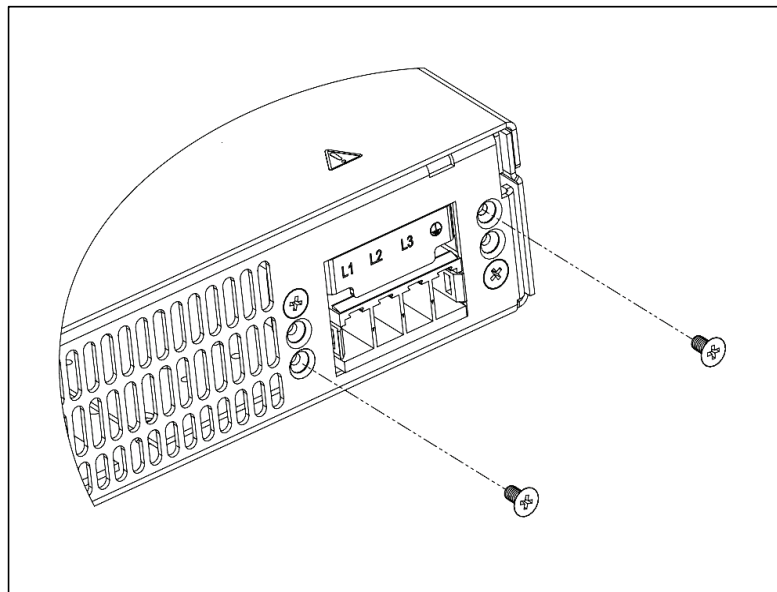

Figure 4-7: Unscrew the Rear Panel Screws
10. To fix the strain relief release assembly, unscrew two of the rear panel screws as shown in Figure 4-7 (3-Phase is shown, it applies to 1-Phase as well). Do not reuse these screws.